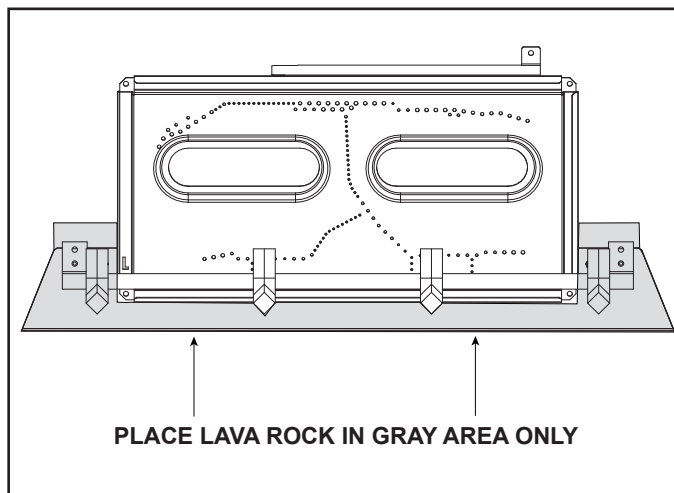

Figure 11.5 Placement of Lava Rock
- Place lava rock in front of and to the sides of the burner. See Figure 11.5.